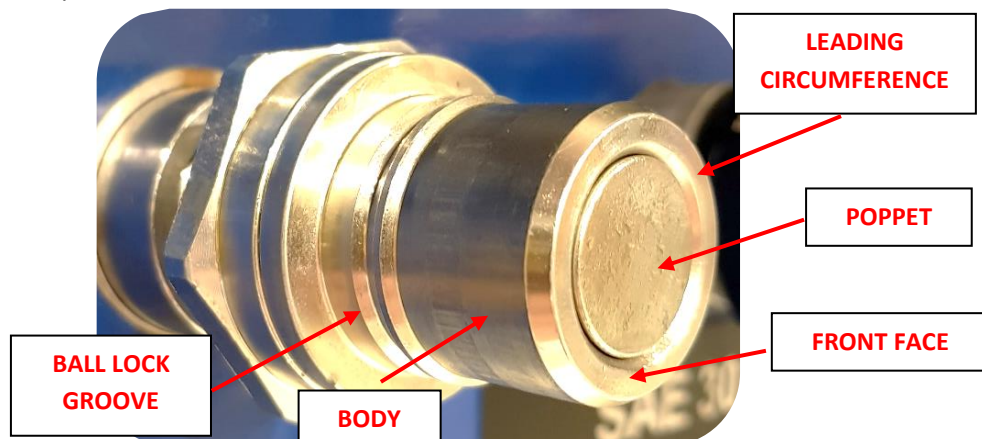
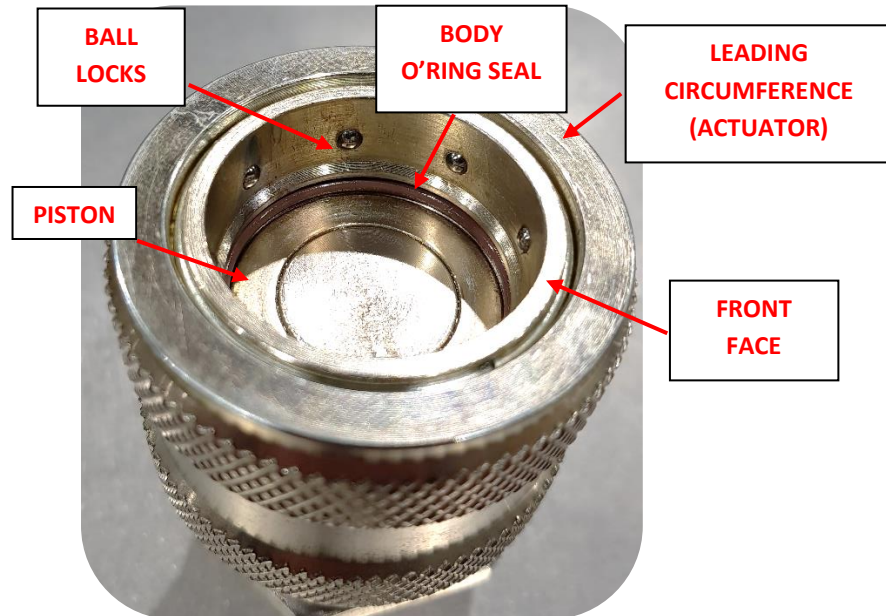

Figure 10 - Critical Areas of Damage on Receivers
Figure 11 - Critical Areas of Damage on Nozzles
- **Closely** inspect the front area of the **Receiver** (Figure 10) and **Nozzle** (Figure 11) for excessive wear or damage;